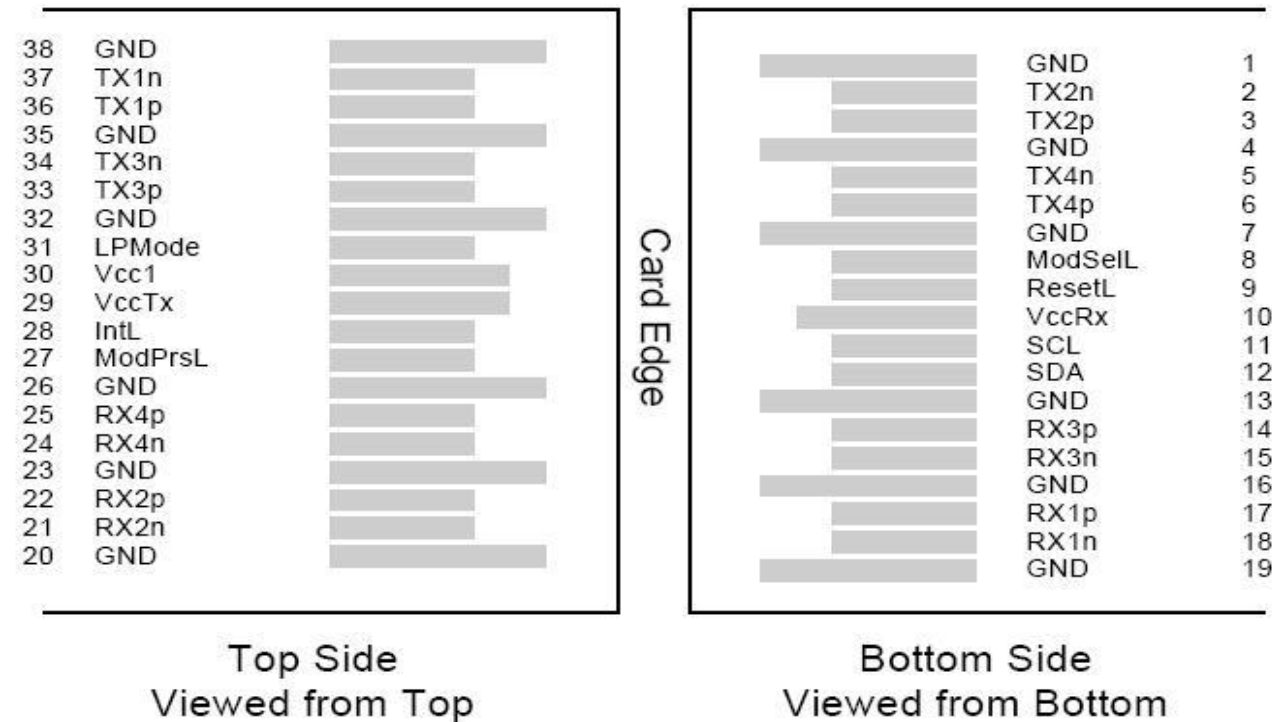

Figure 3. QSFP28 Transceiver Electrical Connector Layout
- 2. VccRx, Vcc1 and VccTx are the receiver and transmitter power suppliers and shall be applied concurrently. Recommended host board power supply filtering is shown in Figure 3 below. Vcc Rx, Vcc1 and VccTx may be internally connected within the QSFP28 transceiver module in any combination. The connector pins are each rated for a maximum current of 1000mA.